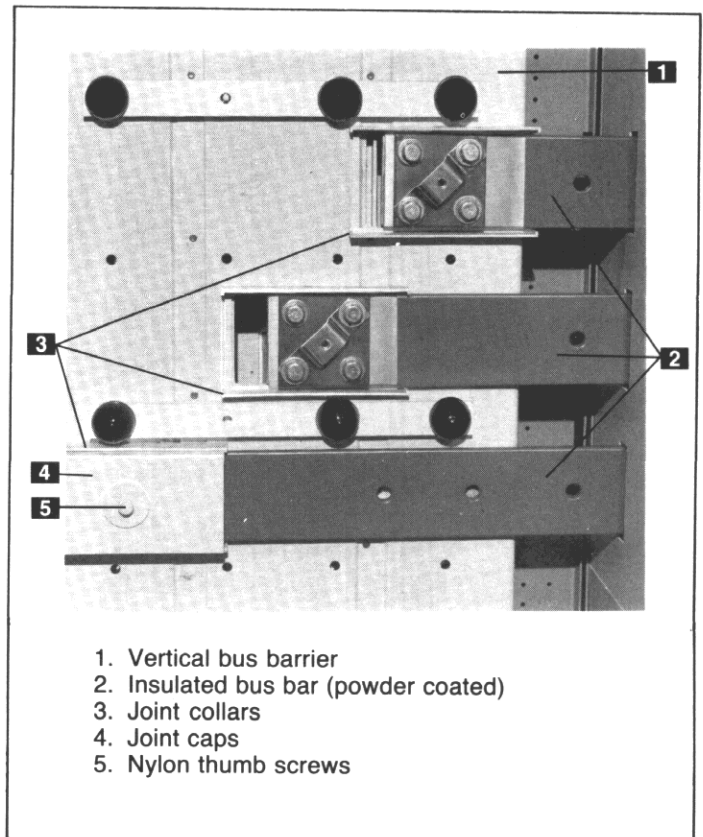

Fig. 3-27. Insul-bar horizontal bus insulation system
Figure 3-27 illustrates the various components comprising the insulation/isolation system for the horizontal main bus bars. The horizontal bus bars (2) are insulated with an epoxy coating applied by a fluidized bed process. The vertical/horizontal bus bar joints are covered with insulating collars (3) and caps (4) held in place with nylon thumb screws (5). The collars and caps are constructed from glass-reinforced polyester insulating material.